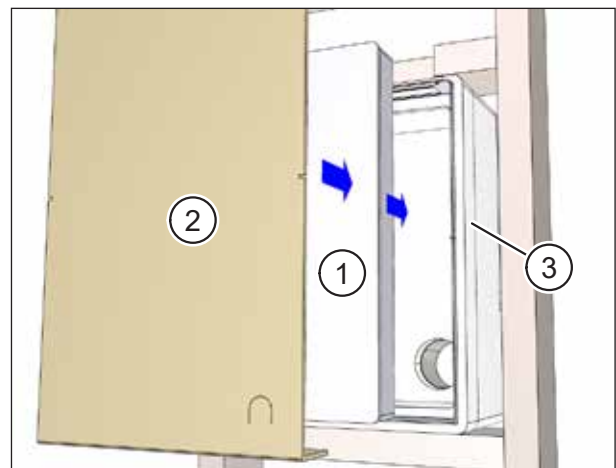

Fig. 53: Inserting the protective cover and plaster cover
- ▶ Insert the protective cover (item 1 in Fig. 53) into the wall box (item 3 in Fig. 53).
- ▶ Insert the plaster cover (item 2 in Fig. 53) into the wall box (item 3 in Fig. 53) as far as it will go.